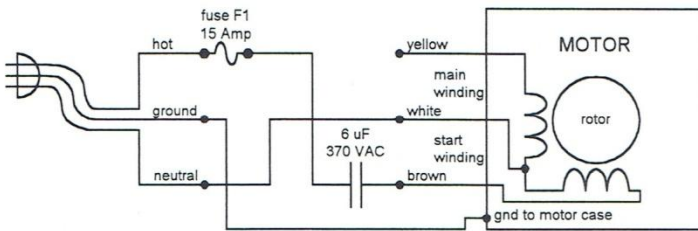

Figure 7.
1. With the AC power cord unplugged, make the connections from the AC power line to the motor as shown in Figure 7. Note that the AC power line is connected to the start winding only.
2. Keep the connections to the motor the same as shown in Figure 7. Plug in the AC power cord and twist the shaft in the clockwise direction. Unplug the power cord if nothing happens.
3. Keep the connections to the motor the same as shown in Figure 7. Plug in the AC power cord and twist the shaft in the counterclockwise direction. Unplug the power cord if nothing happens.